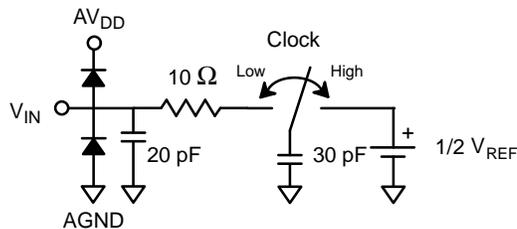

Figure 5. Analog Input Equivalent Circuit
- 4 See VIN input equivalent circuit (Figure 5). Switched capacitor analog input requires driver with low output resistance.